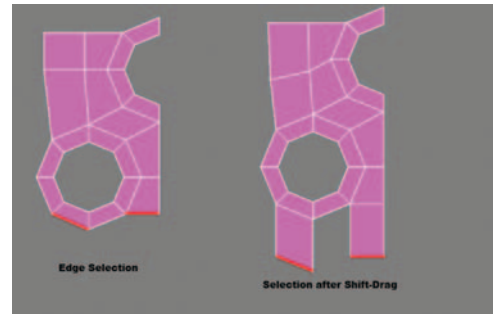

Figure 5.10 New polygons created by shift-dragging edge selection.
11. Next shift-drag two edges from the bottom of our mesh to create a clean edge to our object (Figure 5.10).